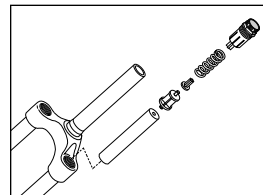

Fig. 2
2. Remove the spring stack assembly (top cap, coil spring, coil spring stop, spacer, and MCU). (See Fig. 2)